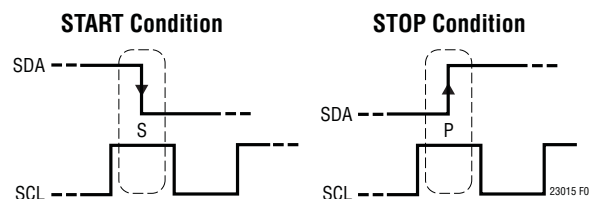

Figure 6. Timing Diagrams of START and STOP Conditions
Referring to Figure 6, a START (S) condition is generated by transitioning SDA from HIGH to LOW while SCL is HIGH. The bus is considered to be busy after the START condition. When the data transfer is finished, a STOP (P) condition is generated by transitioning SDA from LOW to HIGH while SCL is HIGH.